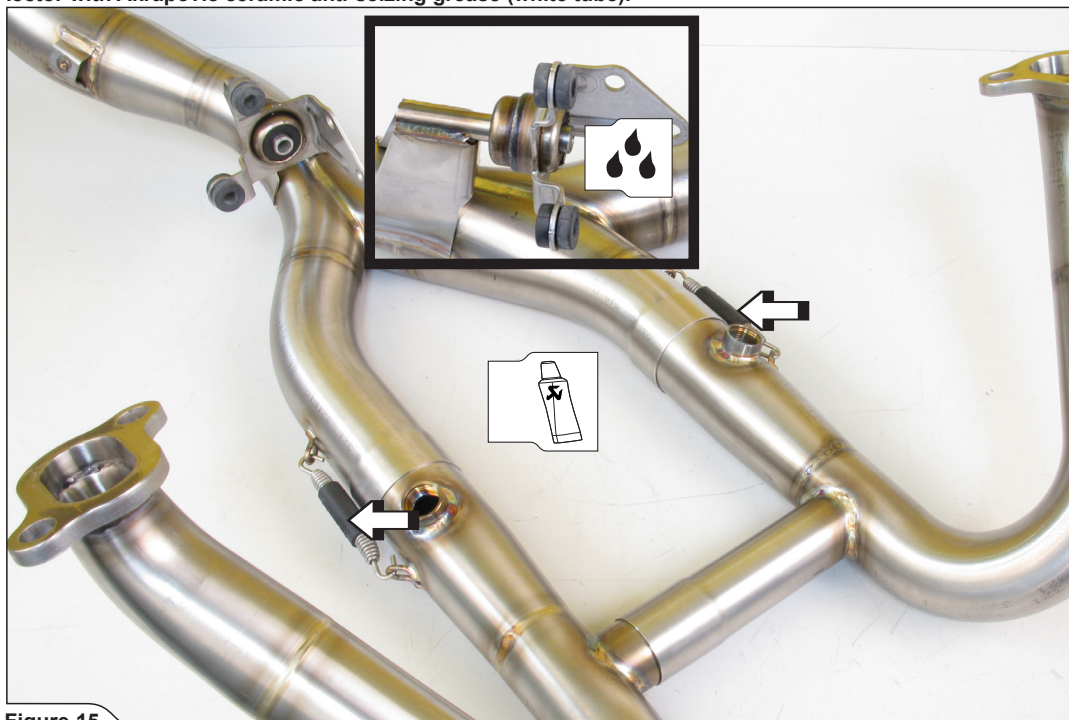

Figure 15
12. Assemble the Akrapovič headers with collector, attach the springs and attach the stock rubber bracket onto the collector, as shown (Figure 15).